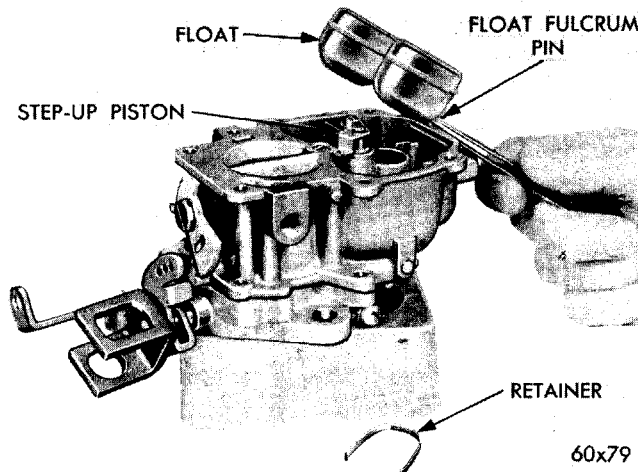
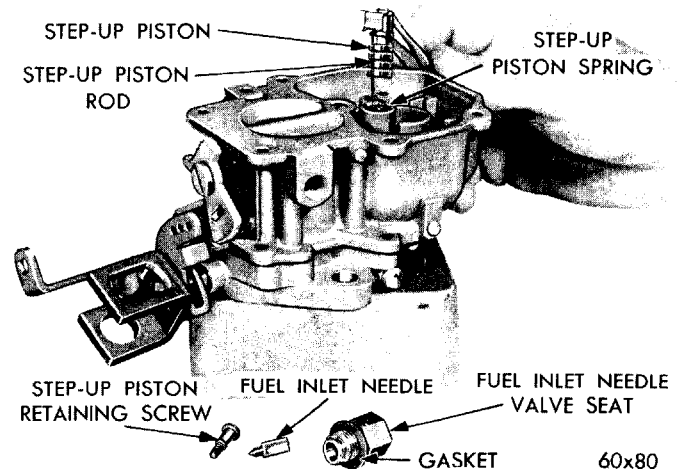

Fig. 5 — Removing or Installing Float
Fig. 6 — Removing or Installing Step-up Piston
(7) Lift out the float fulcrum pin retainer, then lift out the floats and fulcrum pin, as shown in Figure 5.
(8) Remove the fuel inlet needle valve, seat and gasket from the main body.
(9) Remove the step-up piston retaining screw, and slide step-up piston and rod out of well, as shown in Figure 6. Now lift out the step-up piston spring. Remove the step-up piston gasket from the bottom of the well.
(15) Slide the step-up piston gasket down into position in the piston well, then install the step-up piston spring and step-up piston and rod, (Refer to Figure 6). Install retaining screw and tighten securely. Carefully guide the step-up rod into the main metering jet. Be sure the step-up piston slides freely in its cylinder. A step-up piston stuck in the **UP** position will cause a rich mix-